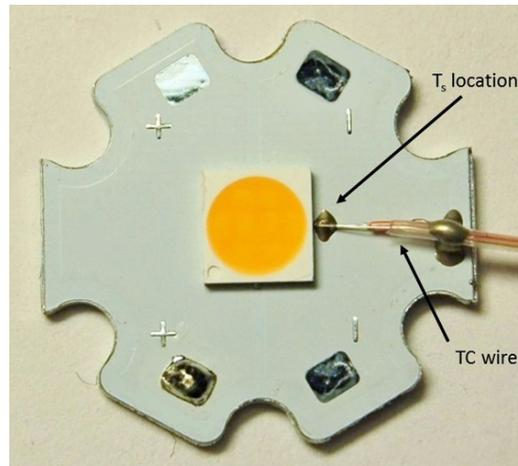

Figure 4. Actual placement of TC wire secured with thermal conductive epoxy. The thermal epoxy volume should be kept to minimum as shown.
The recommended location of the sensor pad is right next to the cathode pad of LUXEON 5050 emitter, as shown in Figure 4. To ensure accurate readings, the thermocouple (TC) tip must close contact to the copper of the PCB onto which the LUXEON emitter thermal pad is soldered, i.e. any solder mask or other masking layer must be first removed before mounting the thermocouple onto the PCB. The tip of the TC wire should be placed as close as possible to the LUXEON emitter package on the exposed copper layer of the thermal pad. The thermal resistance  $R\theta_{j-s}$  between the sensor pad and the LUXEON emitter junction was experimentally determined based on the MCPCB with the following construction: 2oz copper, 0.1mm dielectric with thermal conductivity of 3 W/(m.K). The junction temperature can then be calculated as follows: